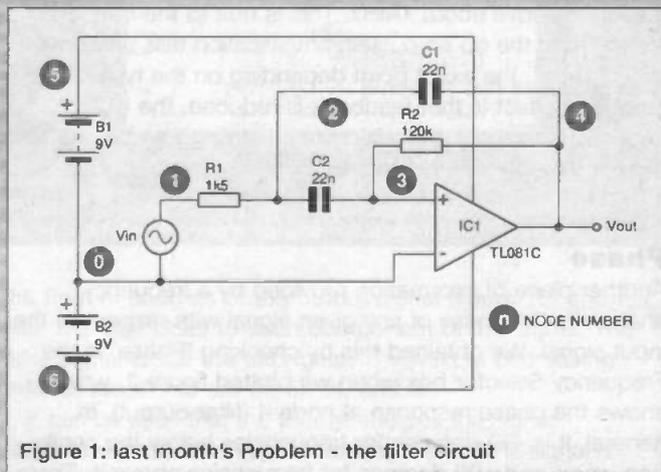

Figure 1: last month's Problem - the filter circuit
**W**e begin by analysing the circuit in part 2 (ETI Issue 5, 1997), which some readers may have recognised as a band-pass filter of the multiple feedback type (figure 1). The netlist is entered either by typing it in, or by using Geseca, as described in part 2. When specifying the voltage generator, set its amplitude to 100mV (a greater amplitude might saturate the op amp) and its frequency to 1kHz (see later). The problem was to investigate the frequency-dependent behaviour of the circuit.